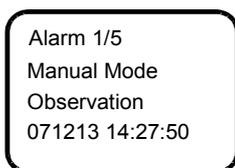

Figure 4-20 Active alarm screen
2. When the system has active alarms, the screen is shown in Figure 4-20.